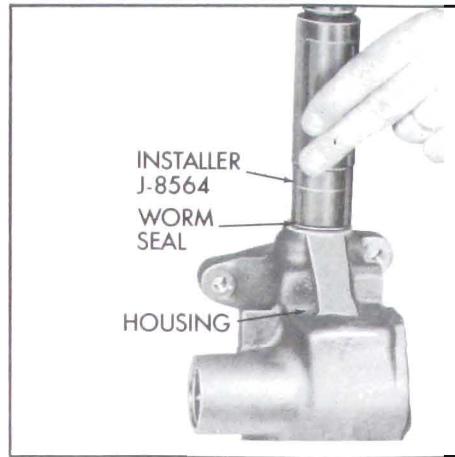

Figure 8-12—Installing Worm Shaft Seal
9. Install new worm shaft seal using Installer J-8564. See Figure 8-12. Drive seal flush with surface of housing.